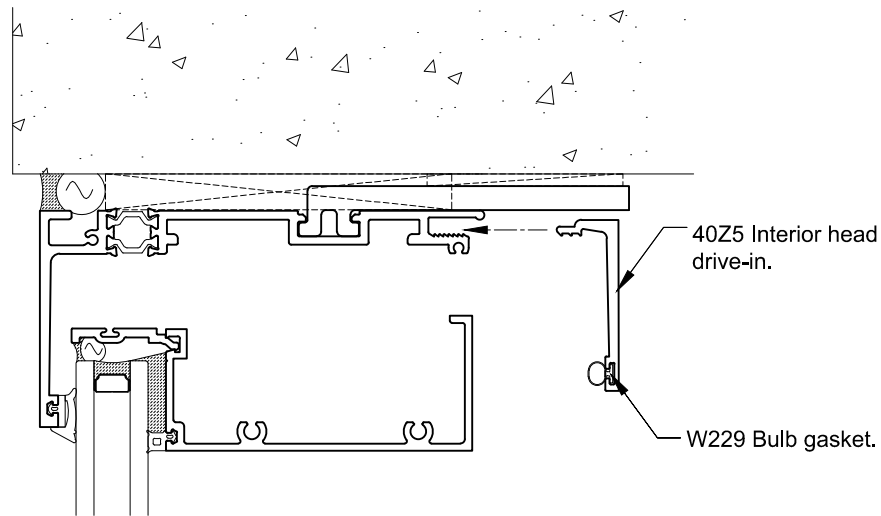

Fig. 1
- A. Install the W229 gasket into the interior head starter drive-in (40Z5). See Fig. 1.